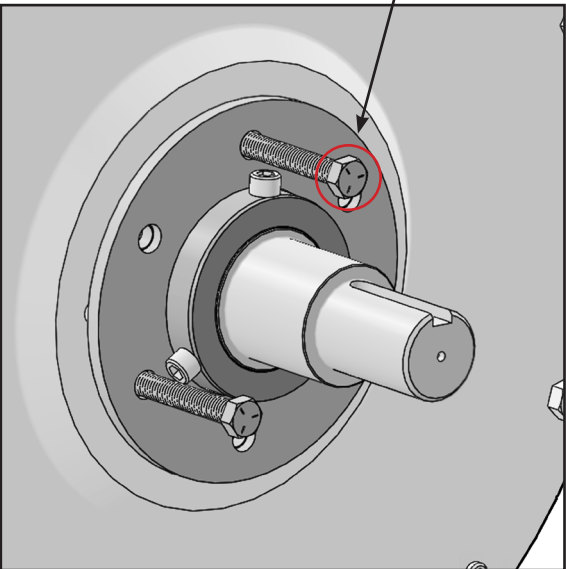

FIGURE 28
- 16. Tighten the long jack bolts in the puller plate until it bottoms out on the endplate front face (Figure 28).